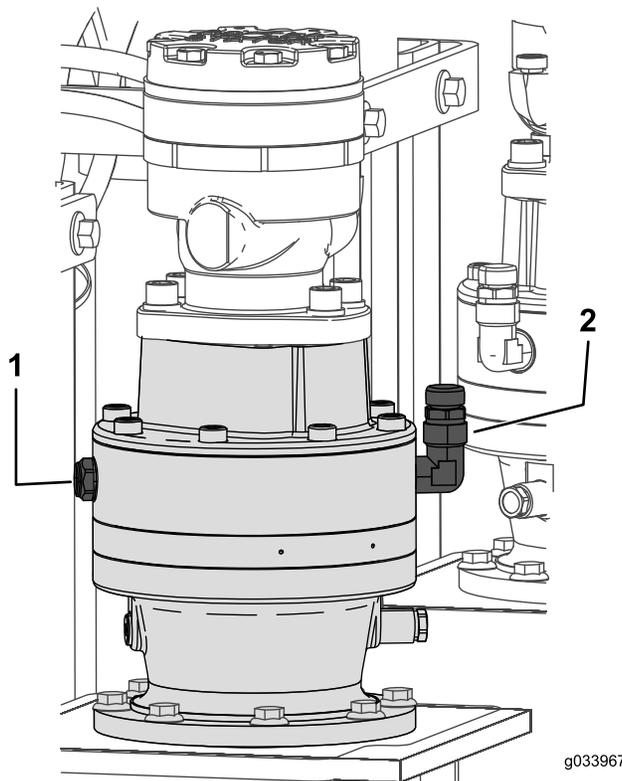

Figure 99
1. Check the oil level on the sight-glass on each stakedown planetary drive (Figure 99).
2. Remove the breather cap and add the oil into the planetary drive until the oil level on the sight-glass is at least half full (Figure 99).